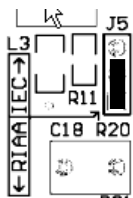
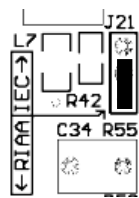

Figure 6: RIAA Equalization curve jumper setting
Figure 7: IEC Equalization curve jumper setting
The **MOON 310LP** Phono Preamp is equipped with circuitry for two (2) different equalization curves; The RIAA standard and the less common IEC modified curve. The main difference is that the RIAA curve produces a flat frequency response from 20Hz to 20kHz; The IEC curve acts as a subsonic filter removing inaudible infrasonic bass below 20Hz. Jumper sockets J5 and J21, for the left and right channels respectively, are used to set the **310LP's** equalization curve. These jumper sockets have three pins allowing for 2 different possible positions. The factory default position is for the RIAA curve as shown below in figure 6 where the jumper connects the lower 2 pins. To select the IEC curve, place the jumper over the upper 2 pins as shown in figure 7 below.